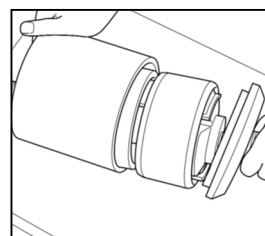

Fig. 13
15. Dismantle tools and remove pivot bush from funnel "D" (Fig. 13).